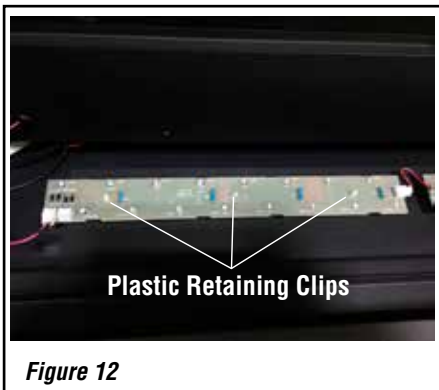

Figure 12
- ii. Using needle-nose pliers, squeeze the plastic clips holding the LED strips in place and push them through the holes in the LED strips (see Figure 12). Unclip the wires from the LED strips and remove them. Insert new LED strips and re-connect the associated wiring.